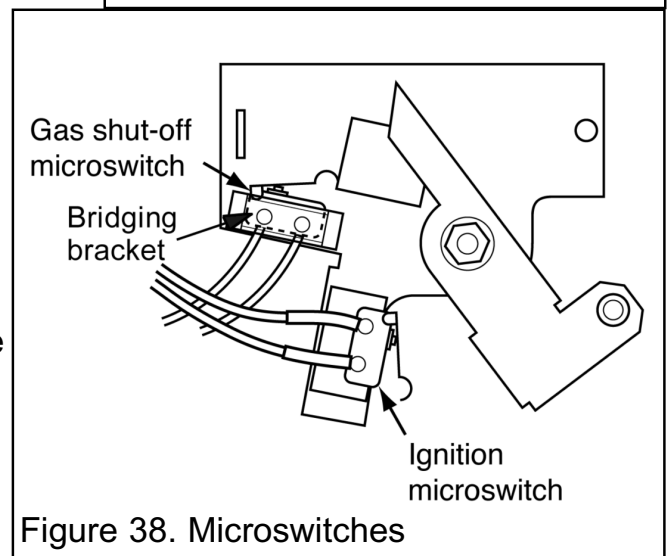

Figure 38. Microswitches
See figures 38 & 39.
2. Disconnect the leads from the ignition microswitch (The lower of the two microswitches - See figure 38).
(See figures 38 & 39).
3. Detach the bridging bracket, microswitch assembly by removing two screws (See figure 38).